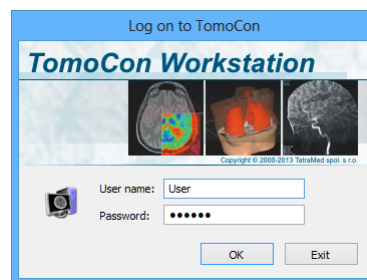

Figure 3 – Log On to TomoCon dialog
- Authorized access with user name and password; the user needs to enter his/her user name and password into the **Log On to TomoCon** dialog (see Figure 3). Next, click the **OK** button in order to start the application.